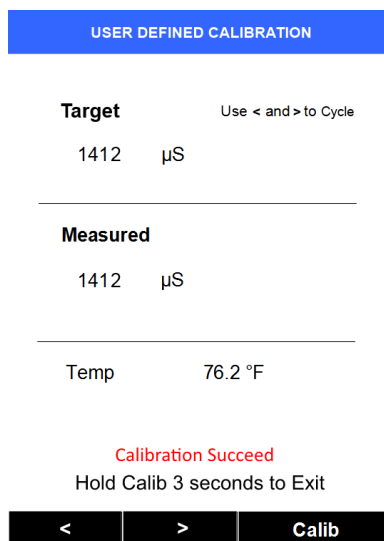

Figure 19
- 10) After successful User Defined calibration, the meter will read the sample value and display the value in the measured section. A slight variance from the target is not problematic. A message will display in red “Calibration Succeed”. The meter will appear similar to Figure 19, depending on the value selected for the User Defined numeric value.